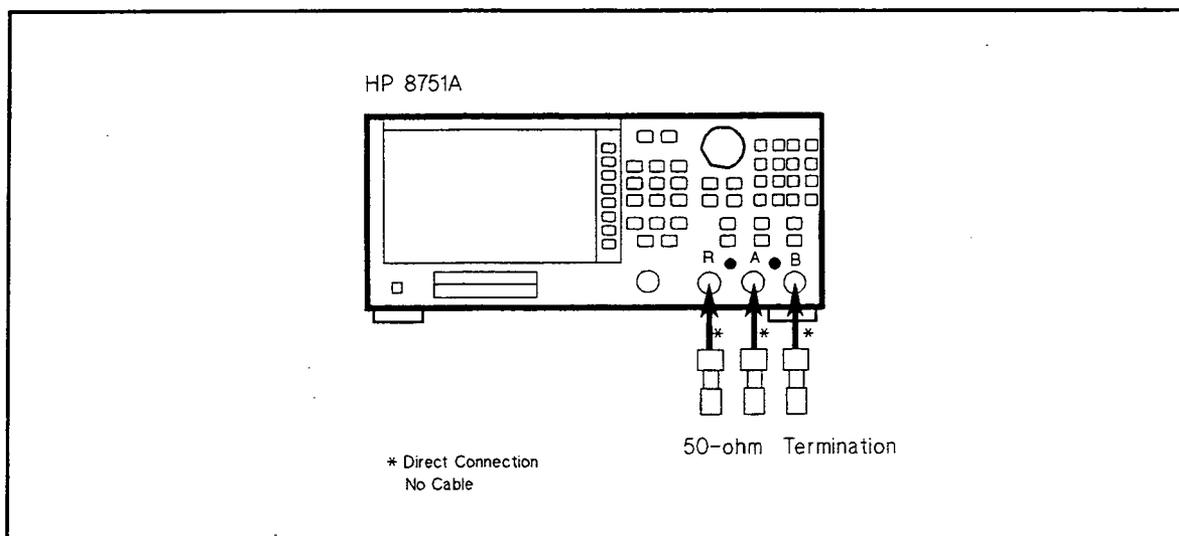

Figure 2-9. Receiver Noise Level Test Setup
1. Connect each 50  $\Omega$  Termination to each input as shown in Figure 2-9.